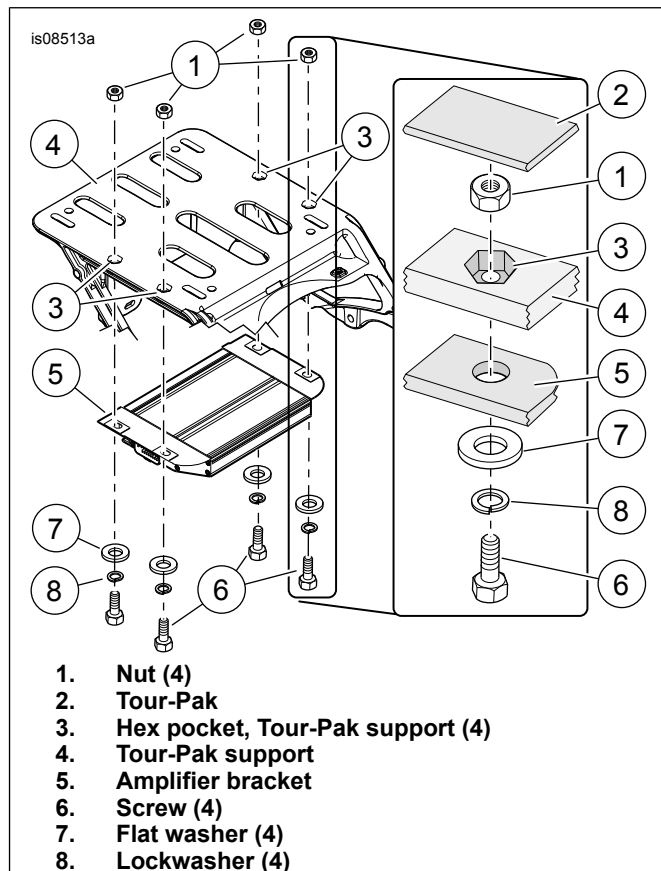

Figure 2. Amplifier Installation
See Figure 2. Place hex nuts (1) into hex pockets (3) on the Tour-Pak support (5).